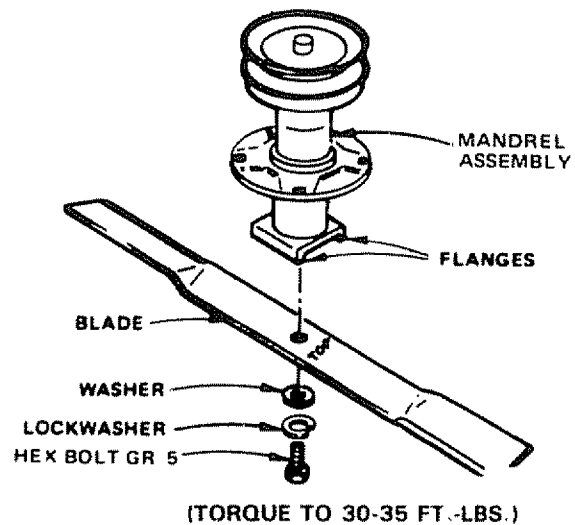

FIGURE 41
- Remove bolt, lockwasher and washer (Fig. 41) (turn counterclockwise) (↺).